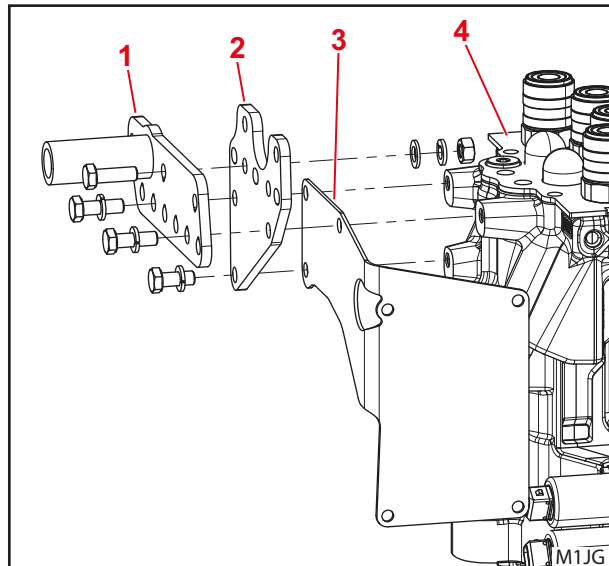

Fig. 4 Alternative fastening options
- The proportional valve can also be installed further up on the bracket on the right mounting part (see Fig. 4).